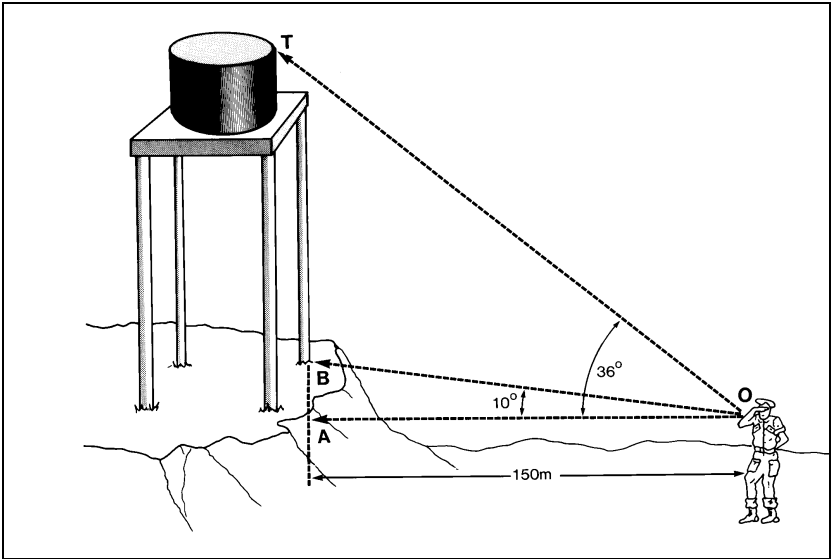

Fig 11-4-5 Finding Height of an Object (Method 2)
- b. **Method 2.** (Fig 11-4-5) The angle to the tower base is  $10^\circ$  above the observer's line of sight and to the top of the tower  $36^\circ$ . The distance from the observer to the tower base is 150 m.